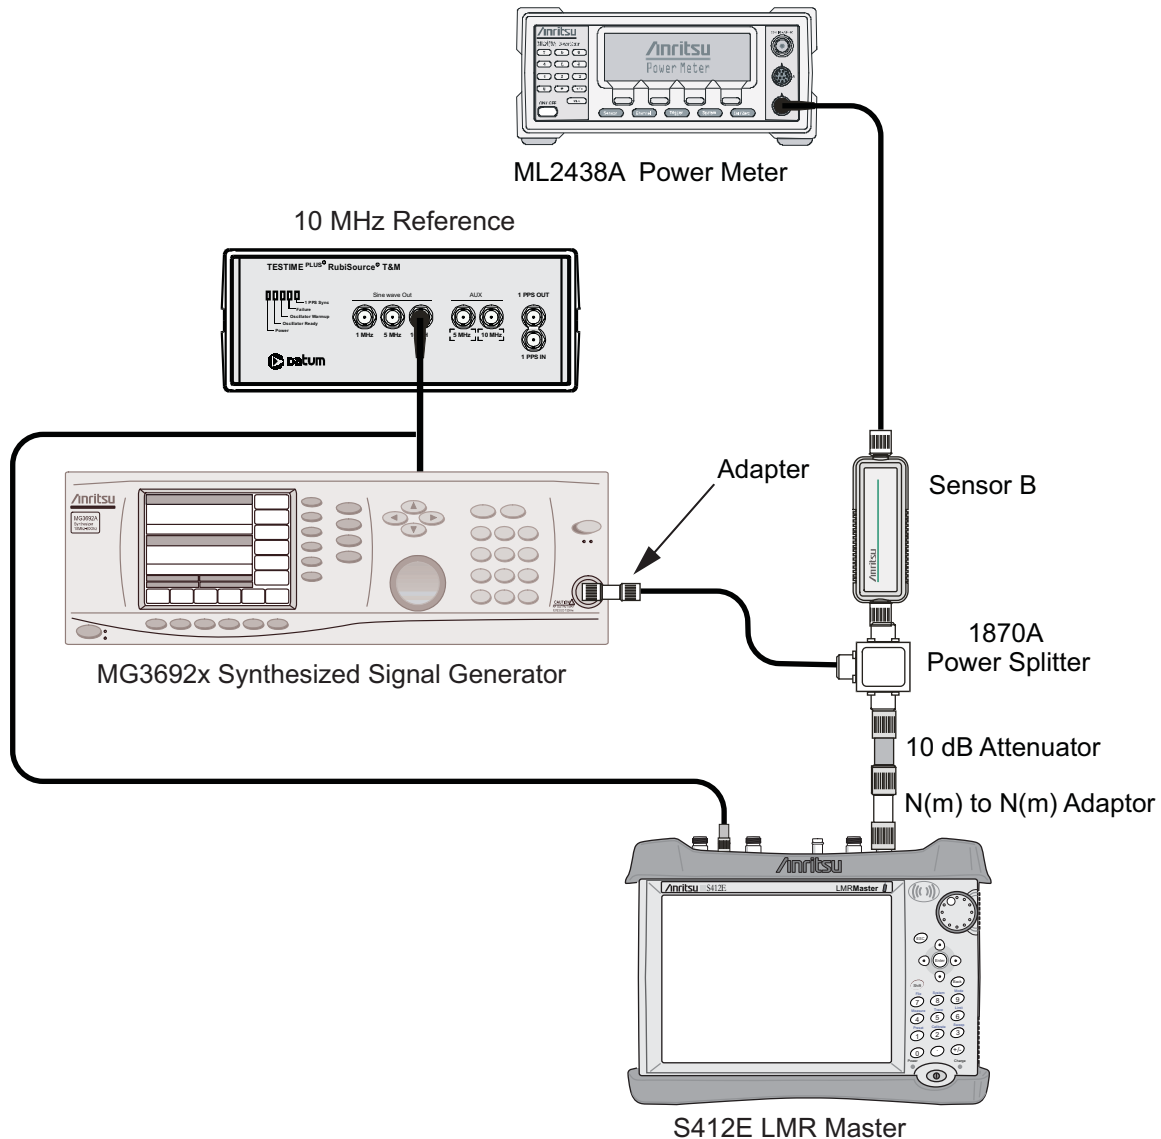

Figure 3-2. Amplitude Accuracy Verification Test Setup
2. Connect the open end of the 34NN50A Adapter to the RF In connector of the S412E as shown in Figure 3-2.
2. Connect the open end of the 34NN50A Adapter to the RF In connector of the S412E as shown in Figure 3-2 on page 3-13.
3. On the S412E, press the **Shift** key and then the **Mode (9)** key. Use the rotary knob to highlight **Spectrum Analyzer** and then press the **Enter** key to switch to Spectrum Analyzer mode.
4. Preset the S412E by pressing the **Shift** key, then the **Preset (1)** key, then the **Preset** button on the touch screen.